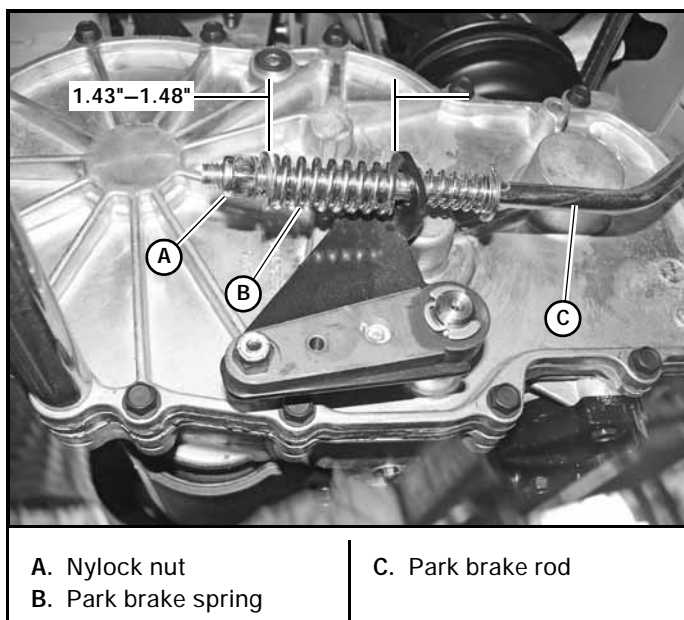

Figure 4-6
2. On one side measure the park brake spring. It should be compressed to $1.43"-1.48"$. If it is not, adjust the nylock nut until the proper spring compression is achieved. Figure 4-6